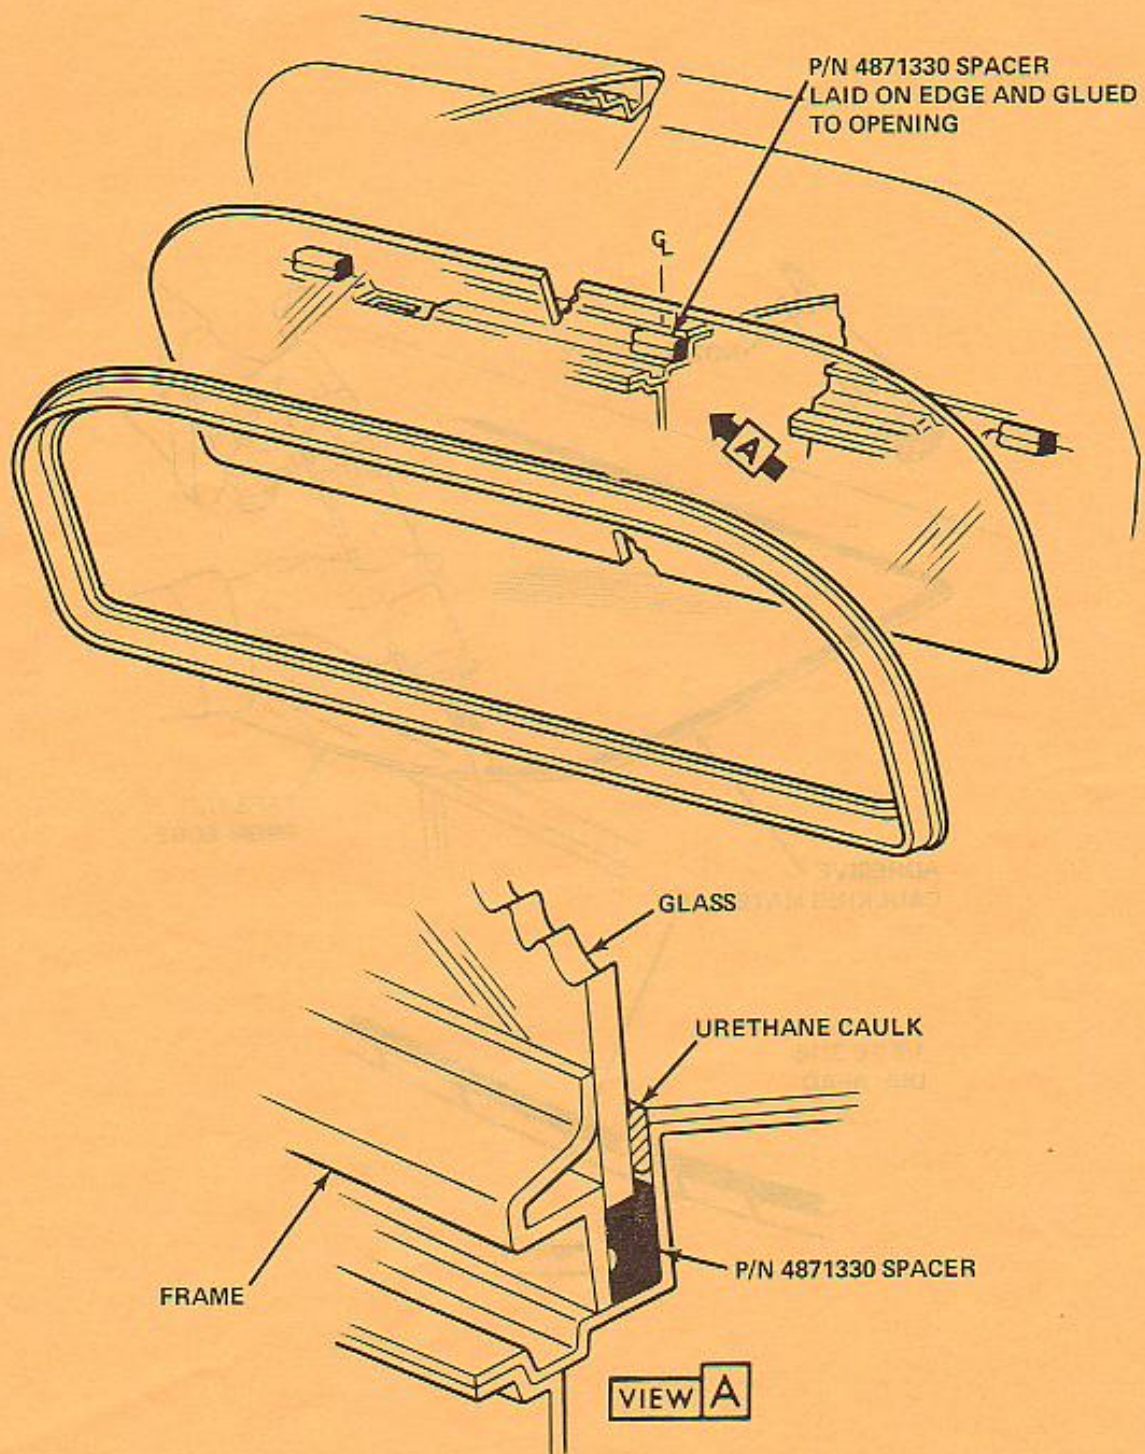

Figure 2
5. Install three rubber spacers (P/N 4871330) as shown in figure 2. Cement in place with the urethane caulking material.